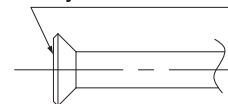

Fig. 3
- When making a flare connection, coat the flared inner surface only with ether oil or ester oil. (**Refer to Fig. 3**)